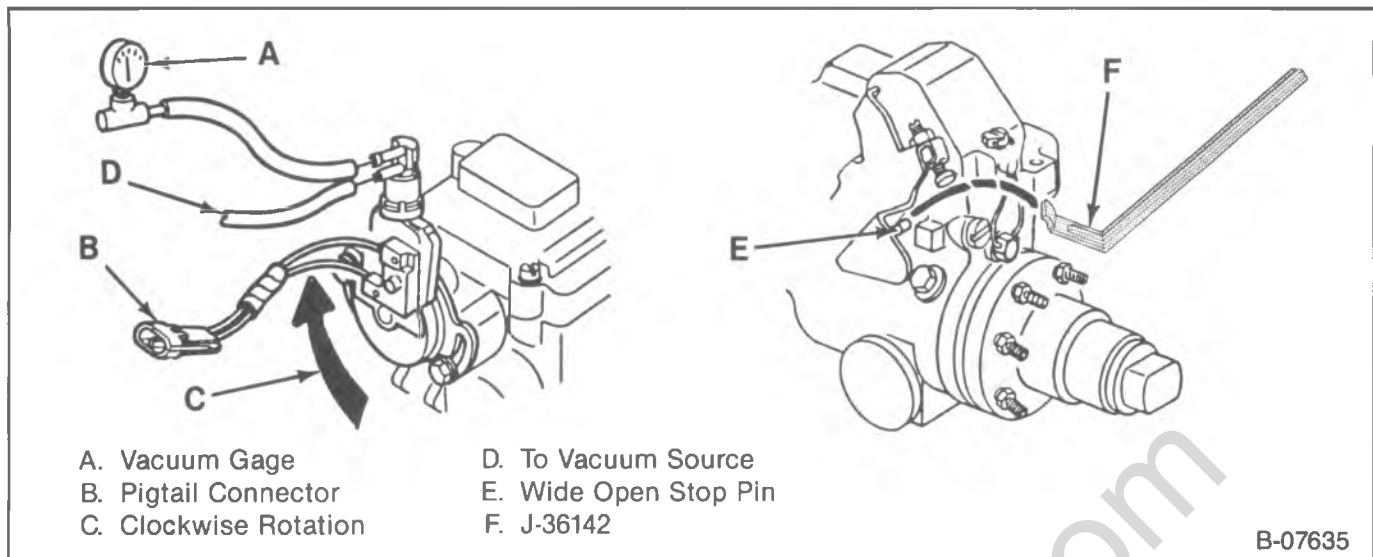

Figure 6—VRV/Detent Switch Adjustment
3. Attach a vacuum gage to the top vacuum port (figure 6).